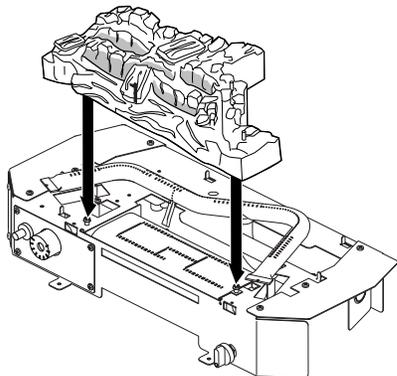

Figure 19 - Installing Log #1 [Ember Bed] (Model CGX3930NT Shown)
1. Place log #1 (ember bed) onto the base. Position the log over the shoulder bolts on either side of the front burner. The log will sit on top of the front burner (see Figure 19).